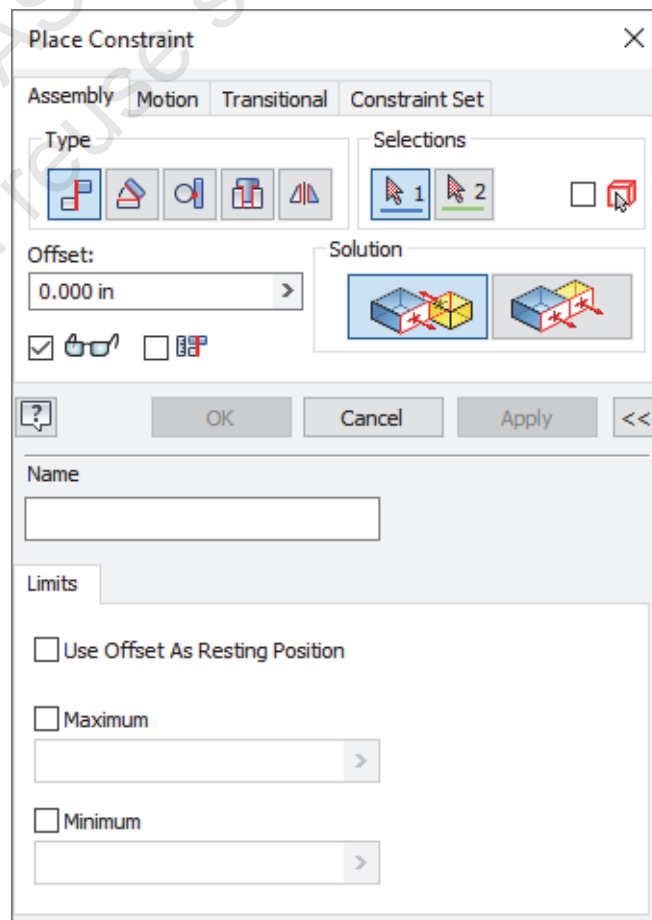

Figure 1–9
- Set limit values for a translational or rotational constraint, as shown in Figure 1–9. This assigns a maximum and minimum allowable range for the *Offset* or *Angle* values used when assigning a constraint. A constraint with limits has **+/-** appended to its name.